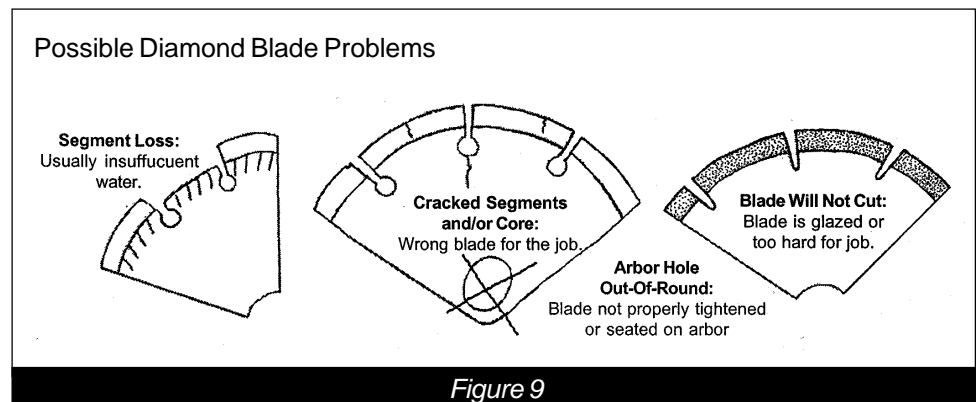

Figure 9
- Inspect diamond blade and arbor shaft. Check blades for cracks, loose segments, worn or out-of-round arbor holes. Do not use warped, twisted, out-of-balance blades or any blade of questionable condition. (Figure 9)